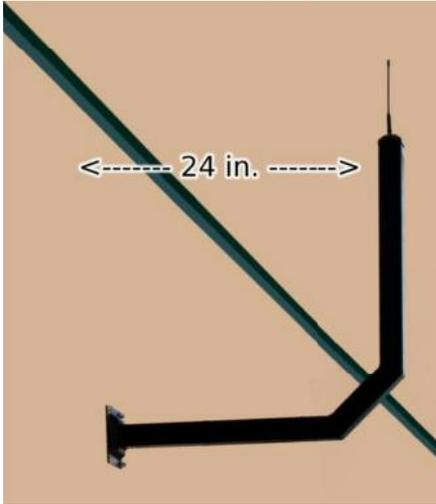

Figure 1
- 2) Ensure antenna is not installed against any metallic surface. To avoid reducing radio range install antenna at least 24” away from steel post or building structure (see figure 1).